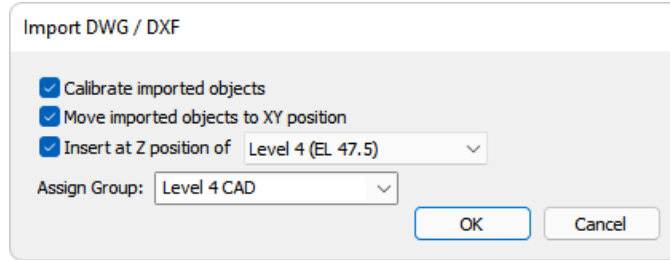

FIGURE 5-3
- Using your keyboard type **Level 4 CAD**, after this the *Import DWG/DXF* window will look as shown in **FIGURE 5-3**.